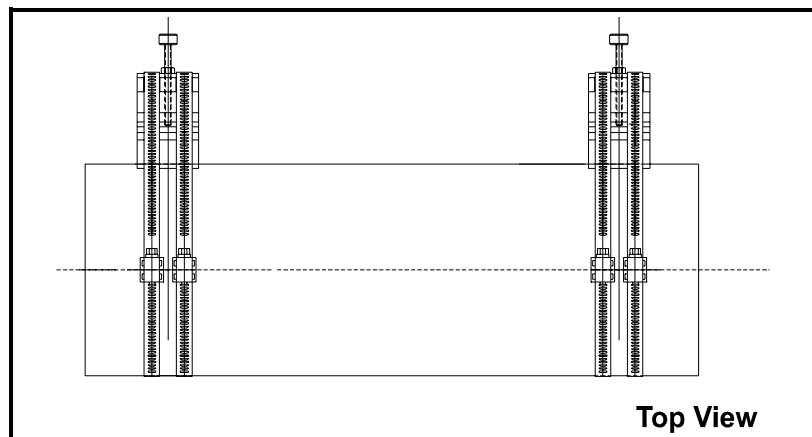

Figure 1-14: Positioning Both Blocks
8. Repeat Step 7 to install the other block over the other crossmark (Figure 1-14 below).